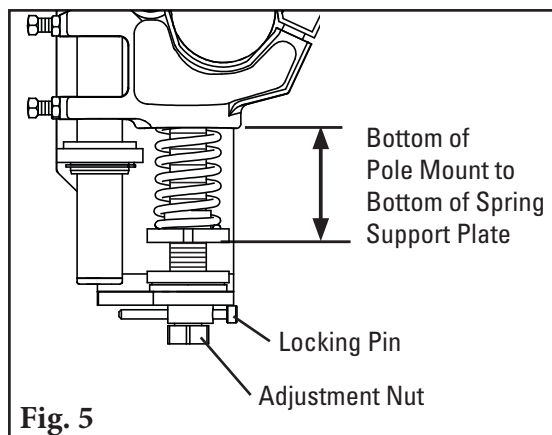

Fig. 5
5. **Set the blade tension.** Turn the adjustment nuts until the correct spring compression is reached (Fig. 5). Spring compression is determined by the spring length. See the chart below for the correct spring length for your belt width. Replace locking pins.